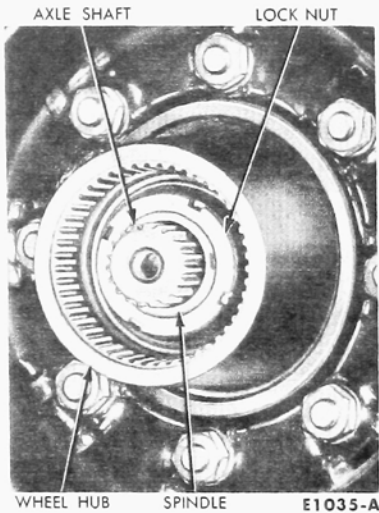

FIG. 8—Front Wheel Hub—4-Wheel Drive
3. Remove the lock nut, washer, and wheel bearing adjusting nut from the steering spindle. Remove the wheel, hub and drum as an assembly (Fig. 8). The wheel outer bearing will be forced off the spindle at the same time. Remove the wheel inner bearing cone.
3. Rotate the wheel in both directions and at the same time tighten the bearing adjusting nut to bring the bearing rollers into proper contact. After the bearings are firmly seated, back off the adjusting nut $\frac{1}{8}$ turn (45°). Place the bearing adjusting lock washer on the spindle. Make sure the locking dowel on the adjusting nut enters the lock washer hole which most closely aligns with the dowel. Install the lock nut and torque to 40 ft-lbs (Fig. 8).